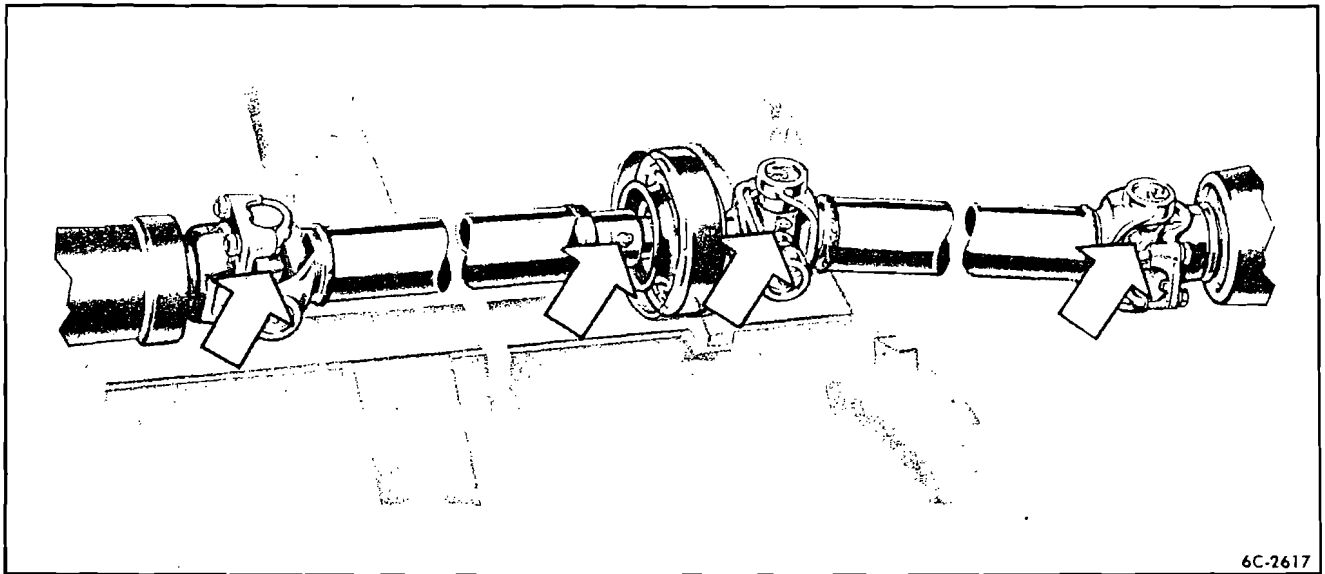

Fig. 7—Universal Joints
6. **UNIVERSAL JOINTS.** Lubricate four lubrication points with chassis lubricant. Use hand gun to avoid possibility of damaging seals. See figure 7.